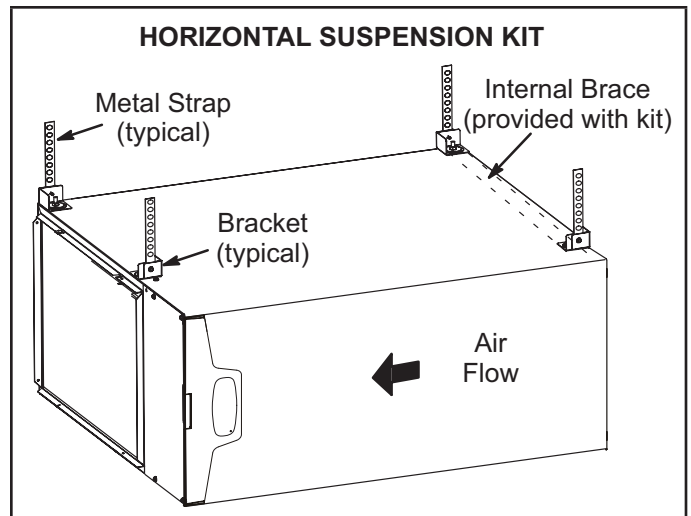
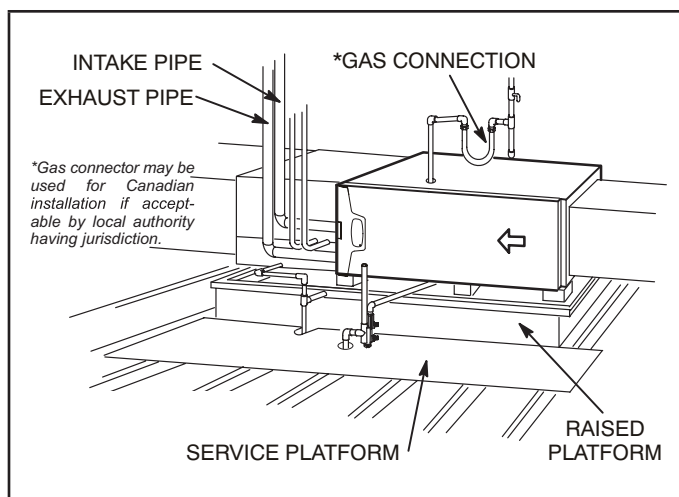

Figure 18
Figure 19
This furnace may be installed in either an attic or a crawlspace. Either suspend the furnace from roof rafters or floor joists, as shown in Figure 18, or install the furnace on a platform, as shown in Figure 19. A horizontal suspension kit (51W10) may be ordered from Lennox or use equivalent.
- 2 - Construct a raised wooden frame and cover frame with a plywood sheet. If unit is installed above finished space, install an auxiliary drain pan under unit. Set unit in drain pan as shown in Figure 19. Leave 8 inches for service clearance below unit for condensate trap.